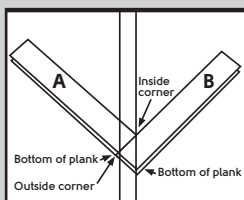

Fig. 5
5. This is the starting angle. Note: 3/16" (5 mm) spacers are required at all walls or vertical abutments (Fig 5).
6. Line up the outside corner edge of the "A" plank with the inside corner on the opposite line position (Fig 5).